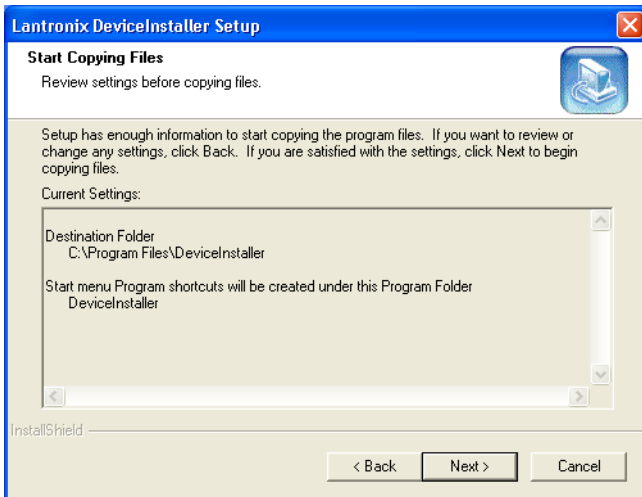

Figure 14: Start Copying Files
12. The default Program Folder is set for Accessories. This is where the Device Installer will be accessible using the Start menu. Once the Program Folder has been selected, click on the button. The Start Copying Files window appears (see Figure 14 on page 13).